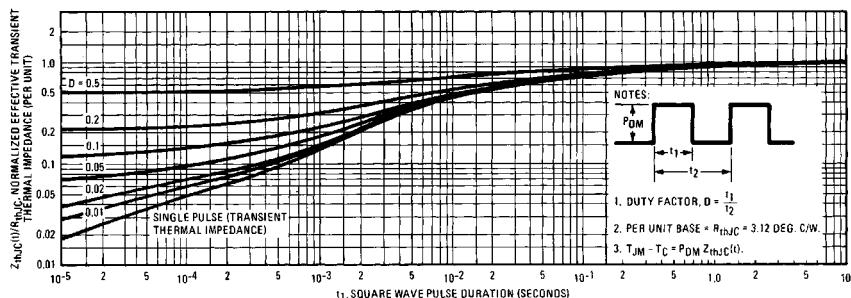

Fig. 5 — Maximum Effective Transient Thermal Impedance, Junction-to-Case Vs. Pulse Duration
① Repetitive rating; pulse width limited by max. junction temperature (See Figure 5)
③  $I_{SD}\leq 3.5\text{A}$ ,  $dI/dt\leq 95\text{A}/\mu\text{s}$ ,  $V_{DD}\leq V_{(\text{BR})\text{DSS}}$ ,  $T_J\leq 150^\circ\text{C}$
② Not Applicable
④ Pulse width  $\leq 300 \mu\text{s}$ ; duty cycle  $\leq 2\%$ .